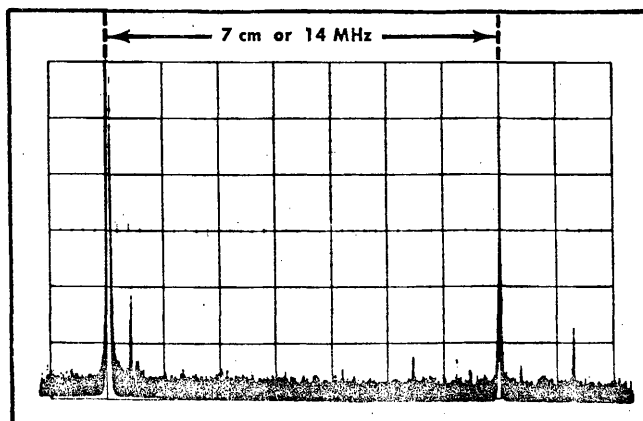

Fig. 2-19. Frequency difference measurement between two signals.
3. Measure the distance in centimeters between the two signals (see Fig. 2-19).